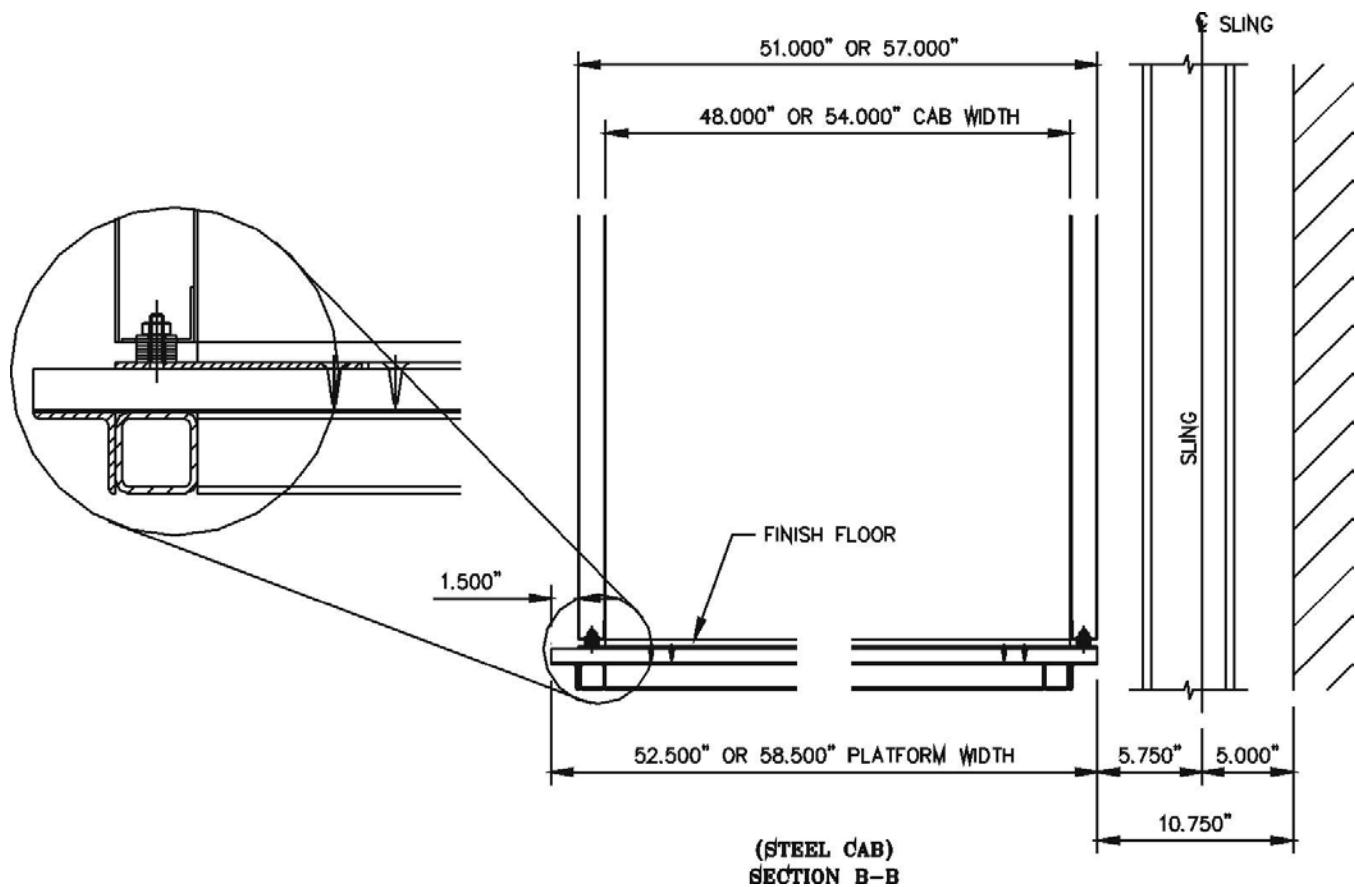

Figure 76 Steel Cab
- 3) Position the cab walls (with base plates) flush to the platform starting with the control wall first, then the front wall, the opposite wall and finally the rear wall. Secure the walls to the platform using #10 - $\frac{3}{4}$ " wood screws supplied. Refer to Figure 76 or 77.